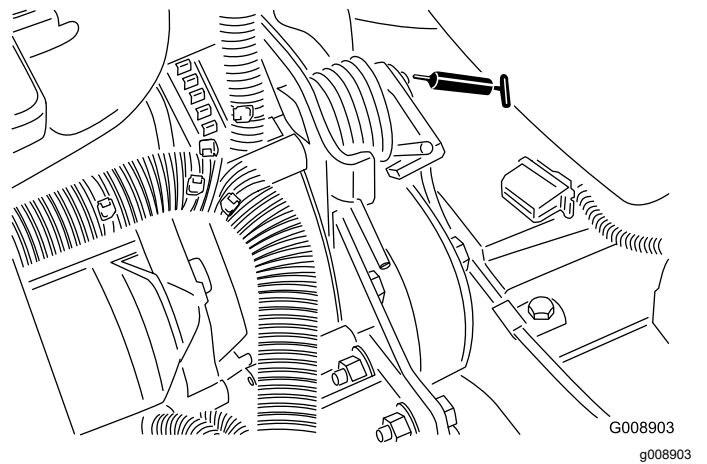

Figure 41
- Belt-tension pivot (Figure 41)